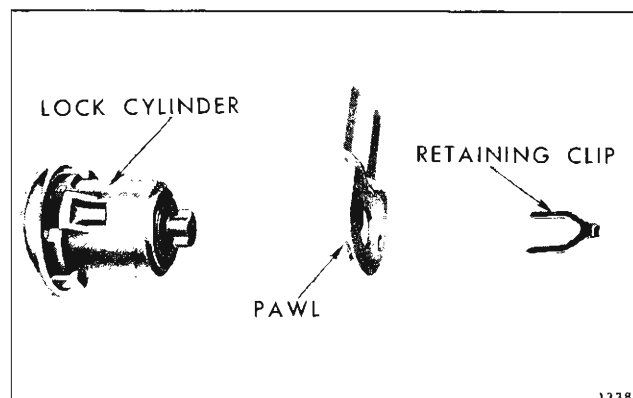

Fig. 5D20—Front Door Lock Cylinder Assembly
3. Remove door lock attaching screws (Fig. 5D17). Move lock forward into rear access hole and disconnect remote to lock connecting rod from lock as described under "Front and Rear Door Spring Clips". Remove lock and connecting rod from door.